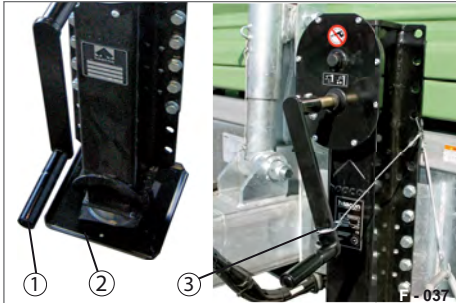

Fig. 48 Support foot retracted
- ▶ Secure the hand crank with the securing cable (Fig. 48/3).
- ▶ Crank the support foot (Fig. 48/2) in high gear - only after coupling the trailer - fully up.
- ▶ Lay the securing cable (Fig. 48/3) around the hand crank and secure it with the hook.